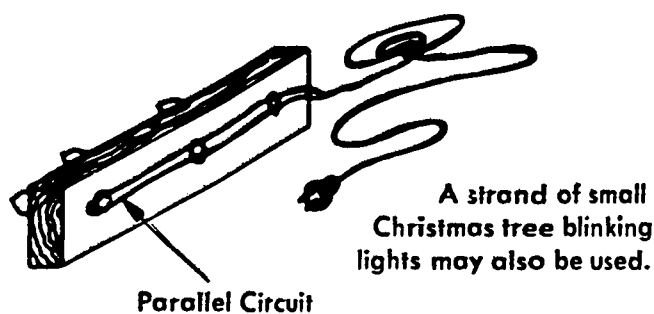

Fig. 61-5. Circuit Assembly
14. Draw and cut out stencil design on 5" x 12" construction paper. Fold ends and insert behind the screen. See Figs. 61-5 and 61-7. Plug in and smile.